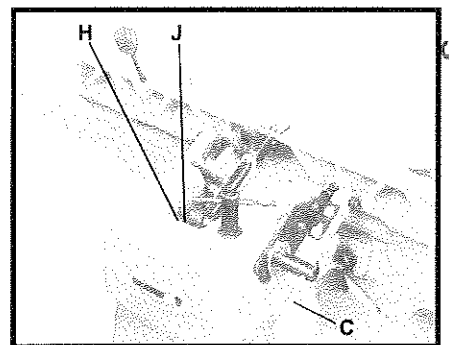
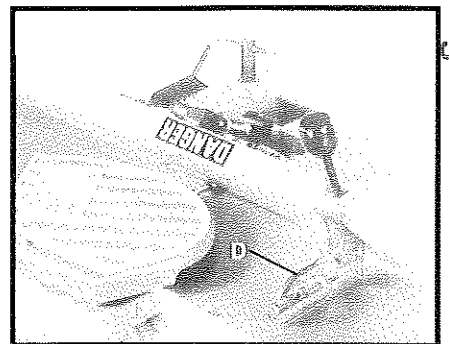

Fig. 14
Fig. 15
1. Loosen lock lever (C) (Fig.14).
3. Re-tighten the lock lever (C).
4. Place a square (D) onto the table and against the fence (Fig.15).
6. If adjustments are required loosen the nut (H) and turn the adjustment screw (J) until you have obtained a 45° angle.
7. Re-tighten nut (H).